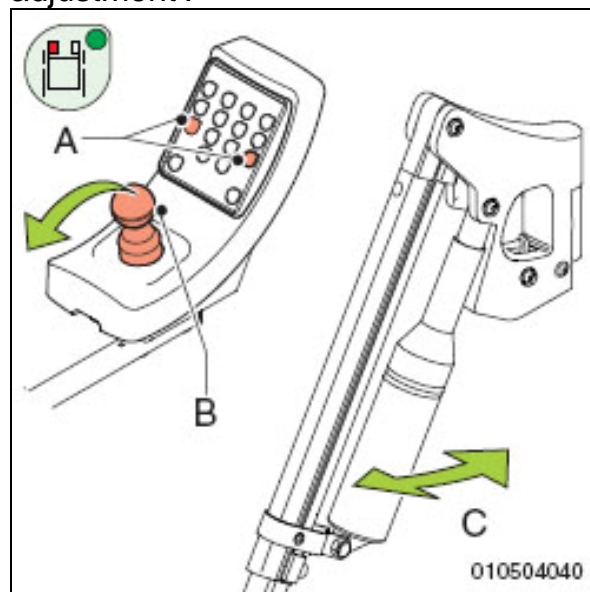

Figure 3.20
- On the control panel of the controller, press the symbol for angle adjustment of the leg rest (A in fig. 3.13) of which the angle (C in fig. 3.20) has to be adjusted. The light of the pressed symbol must now be on.
- Now move the joystick (B) forward to adjust the leg-rest (C) upward or backward to bring the leg-rest down.